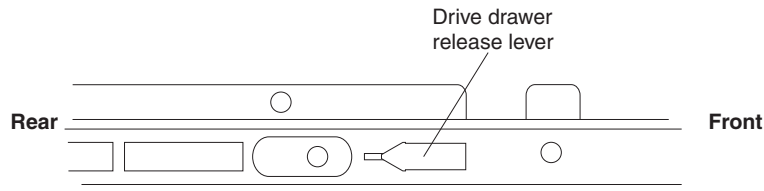

Figure 92. Drive drawer release lever on the side of the drive drawer
- b. Slide the drive drawer release lever (see Figure 92) on both sides of the drive drawer toward you, and remove the drive drawer from the enclosure.